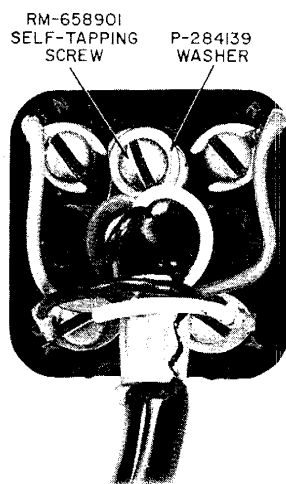

Fig. 16—Early Model D4BP Cord Terminated on 283(MD) Plug
Note: An RM-658901 self-tapping screw and a P-284139 flat washer will be shipped with each 283B(MD) plug (Fig. 16).
- (5) Bend cord spade tips and dress red and green conductors so they lie outside of the mounting screw hole guides (Fig. 16).
- (6) Seat base of plug in cover before tightening screws to prevent pinching of conductors.